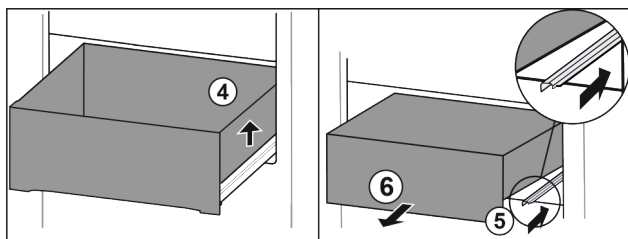

Fig. 182
- Lift drawer on the right. Fig. 182 (4)
- Insert right rail. Fig. 182 (5)
- Remove drawer to the front. Fig. 182 (6)